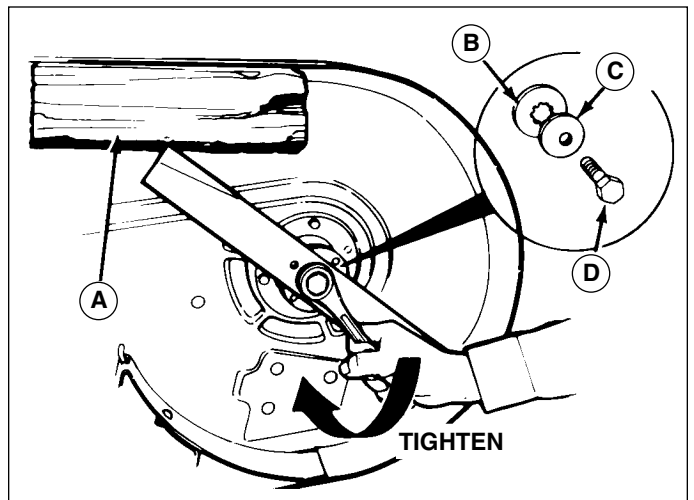

Figure 9. Installing The Blade
6. Reinstall each blade with the tabs pointing up toward deck as shown in Figure 9. Secure with a capscrew (D), cup washer (C) and spline washer (B). Use a wooden block to prevent blade rotation and torque capscrews to 50-70 ft.lbs. (67-95 N.m.).